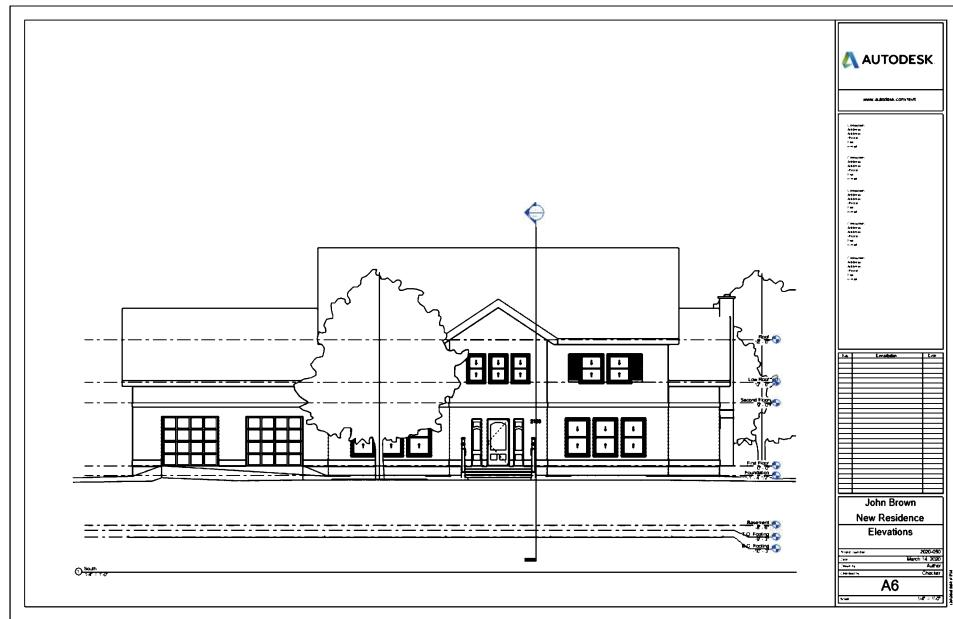

FIGURE 15-1.6 South exterior elevation
Your drawing should look similar to Figure 15-1.6.
15. In the sheet view, click on the *South* exterior elevation view to select it; the outer extents rectangle is called the *viewport* (Figure 15-1.6).